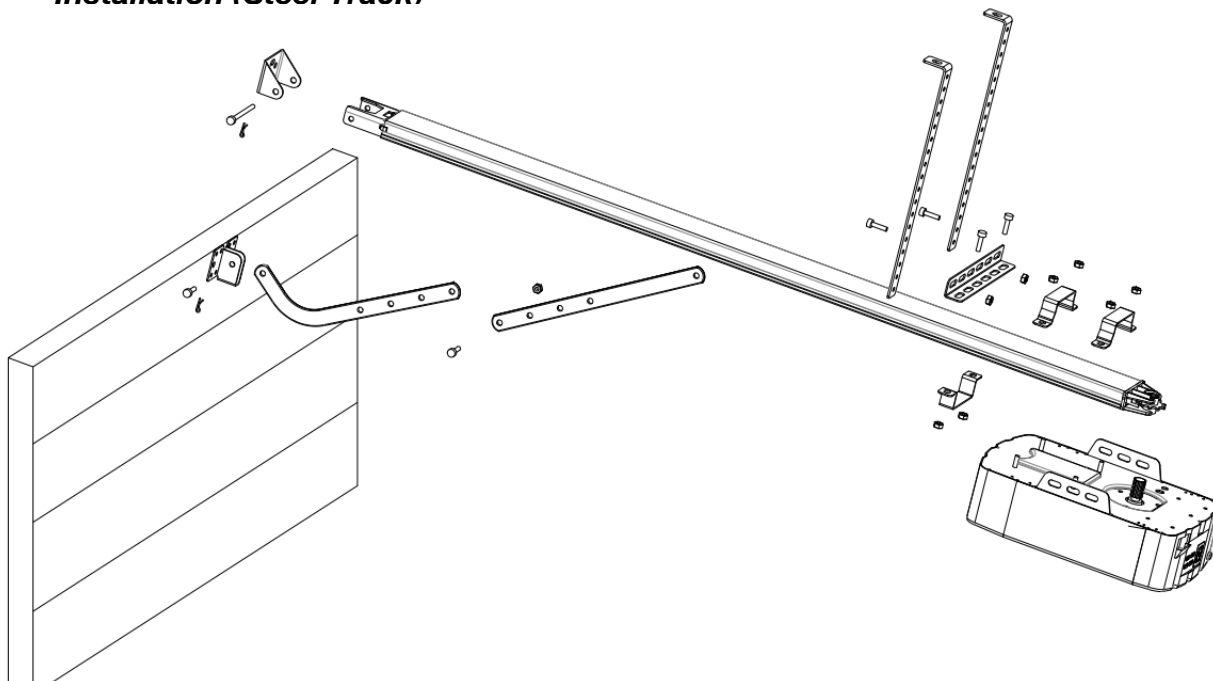
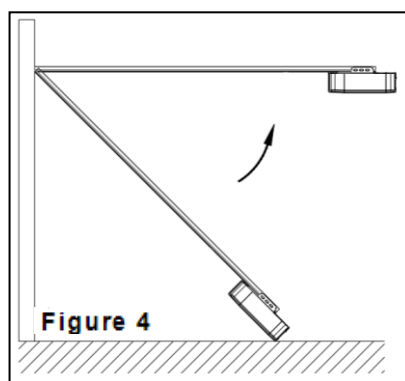

Figure 3
Figure 4
STEP1(Fig.3)
STEP2(Fig.3)
STEP3(Fig.3, Fig.4)
STEP4(Fig.3, Fig.5)